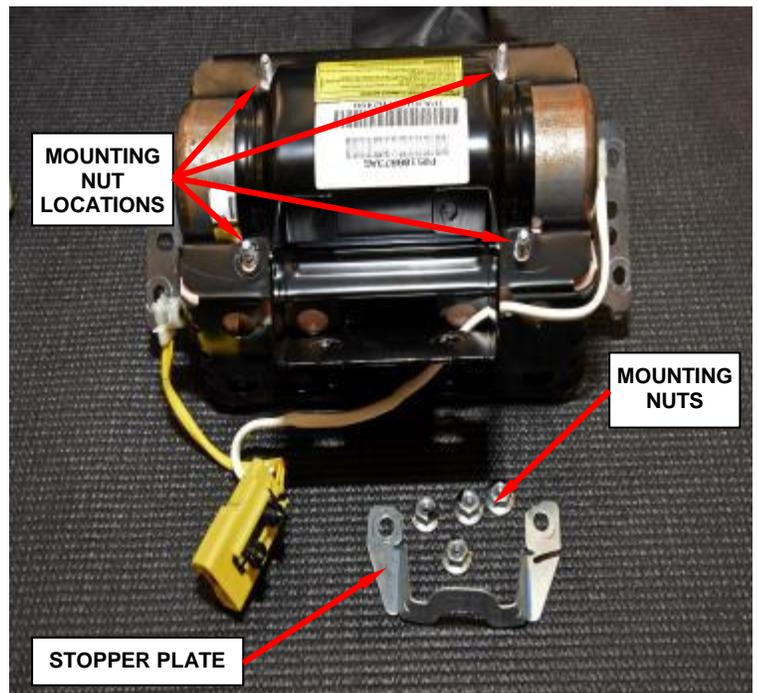

Figure 51 – Mounting Nuts and Stopper Plate
- e. Remove and **discard** the four inflator mounting nuts (Figure 51).